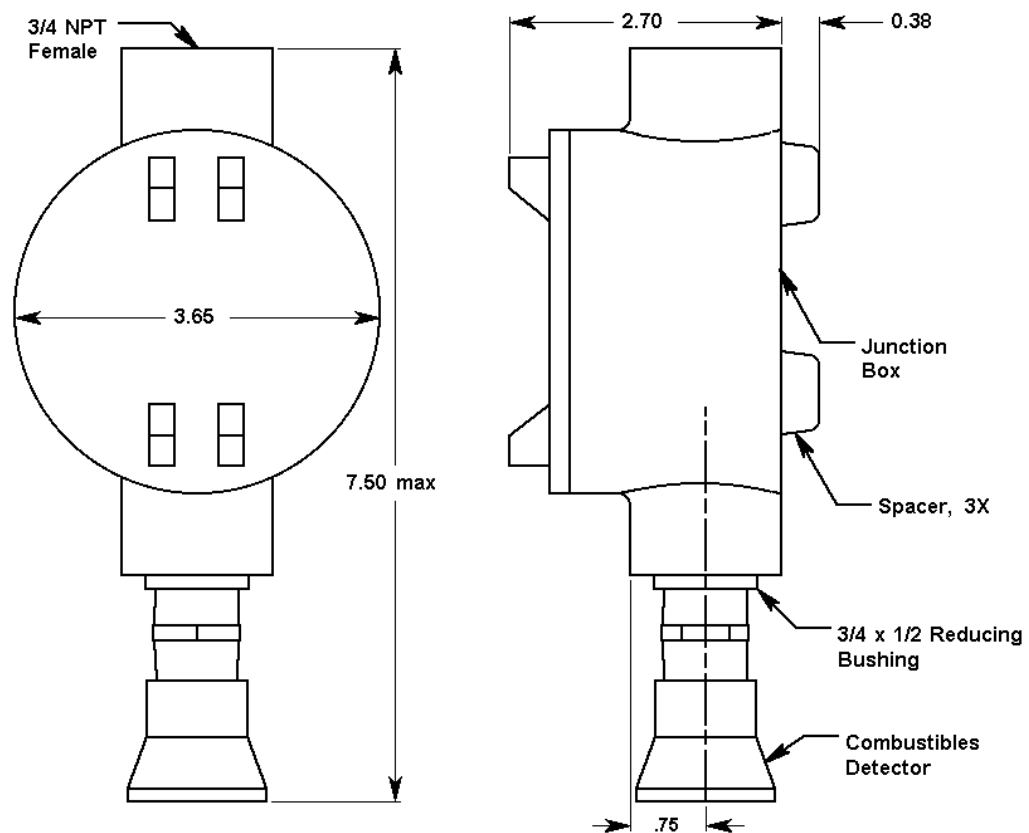

Figure 1: Mounting the Combustible Gas Detector
2. At the mounting site you select, hang or mount the junction box with the detector facing down (see Figure 1.)